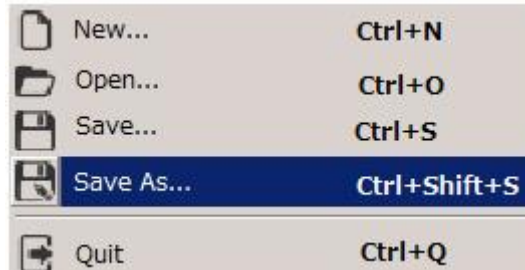

Figure 7-52 Save project file
- b) Click Save As. (Figure 7-52)